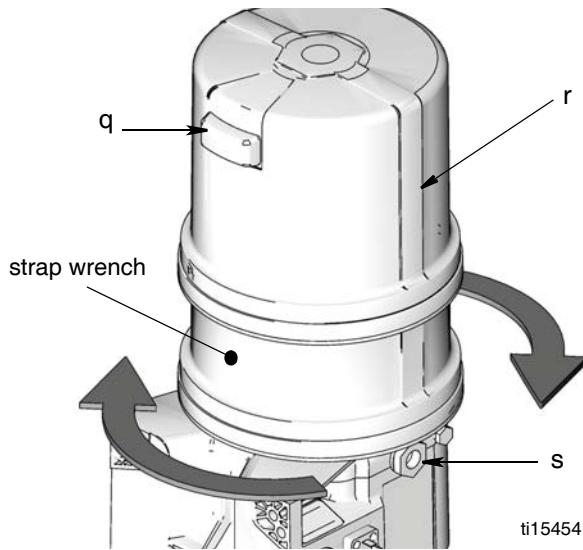

FIG. 19
Install reservoir onto adapter. Position strap wrench around lower portion of reservoir as indicated in FIG. 19 and use it to turn the reservoir clockwise to tighten it to the base.
- b. Then continue to turn the reservoir clockwise for a second turn until the vent (q) in the reservoir faces the back of the G3 pump and the horizontal lines (r) molded into the reservoir align with the pump outlets (s) on each side of the pump base as shown in FIG. 19.
Position a strap wrench around the lower portion of the reservoir as indicated in FIG. 19. Turn reservoir clockwise 1/4 turn to tighten it to the base.